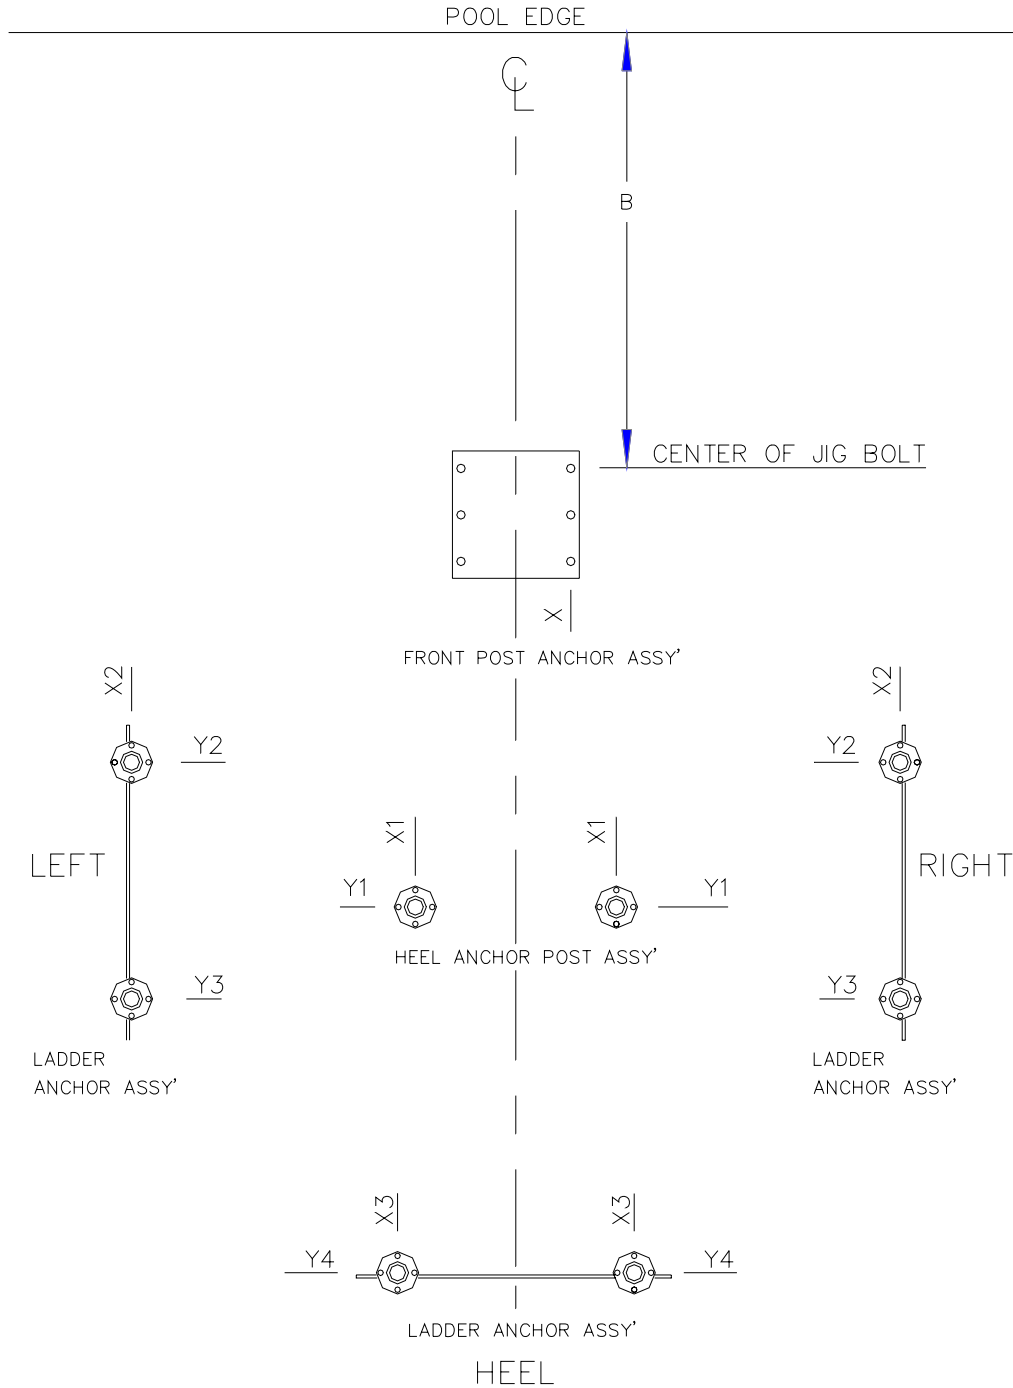

FIG. 3
\*\* MIN. LENGTH: Add 15" to the Y3 dimension (Right, Left or Dual Mount Tower) or the Y4 dimension (Heel Mount Tower) found in Fig. 3 (page 3) and Chart 2 (page 4).
1. It is CRITICAL that the jigs are located according to Fig. 3 below and Chart 2 on page 4. The top surface of the jigs MUST be level and flush with the concrete surface. Keep bolt threads and top surface of jig plates clean of concrete. Let concrete cure before installing Meter Tower.
\* Same as "B" dimension in Fig. 2 page 2 and Fig. 3 page 3.